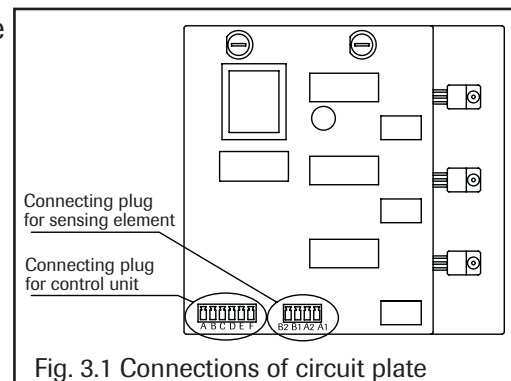

Fig. 3.1 Connections of circuit plate
- Attach the connectors of the control unit and the sensing element to the plugs in the circuit plate (Cf. Fig. 3.1)